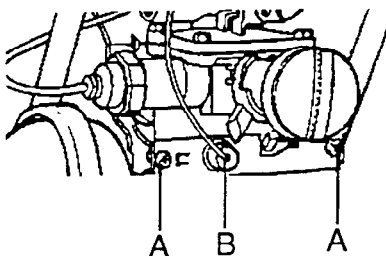

Fig.18
b) Remove the two screws (A) holding the retaining plate (see fig. 18).